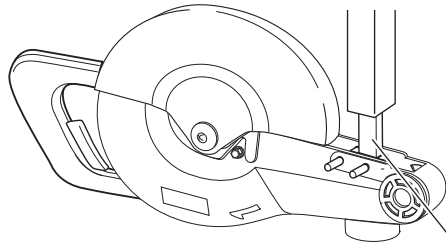

Fig. 4.
- 4) Put the block between the inserted 2 bars. And set the separated motor unit on the turn base of arbor press, as illustrated in Fig. 4.